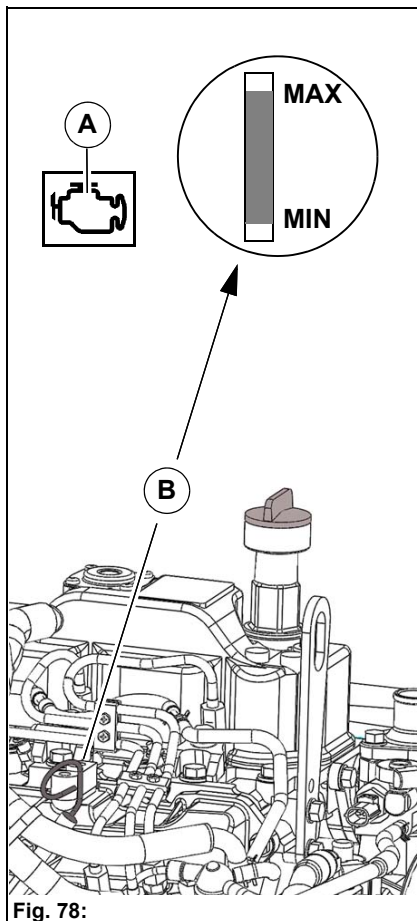

Fig. 78:
<p>Danger</p> <ul style="list-style-type: none"> • Toxic engine exhaust gases! Inhaling exhaust gases is injurious to health and can lead to unconsciousness and to death! Never let the engine run in enclosed spaces. • Danger of burns from hot parts! Do not touch any parts such as engine block, cooling system and exhaust system during operation and for some time after. Let the engine cool down. • Risk of injury due to rotating parts of the cooling system. Injury of limbs or hair or clothing getting caught up. Switch the engine off and pull out the ignition key. <p>Attention</p> <ul style="list-style-type: none"> • If the engine oil pressure warning symbol Fig. 78-A in the multifunctional display lights up with the engine running, there is a risk of engine damage! Stop the vehicle in the safe range. Turn the engine off immediately and check the oil level. Have the cause of the inadequate engine oil pressure removed. <p>Environmental danger</p> <ul style="list-style-type: none"> • Ensure safe and environment-conserving disposal of operating and auxiliary materials. Take up escaping or spilled operating materials in suitable containers and dispose of them in an environmentally friendly manner.
2. Check the engine oil level with the dip stick **Fig. 78-B**.